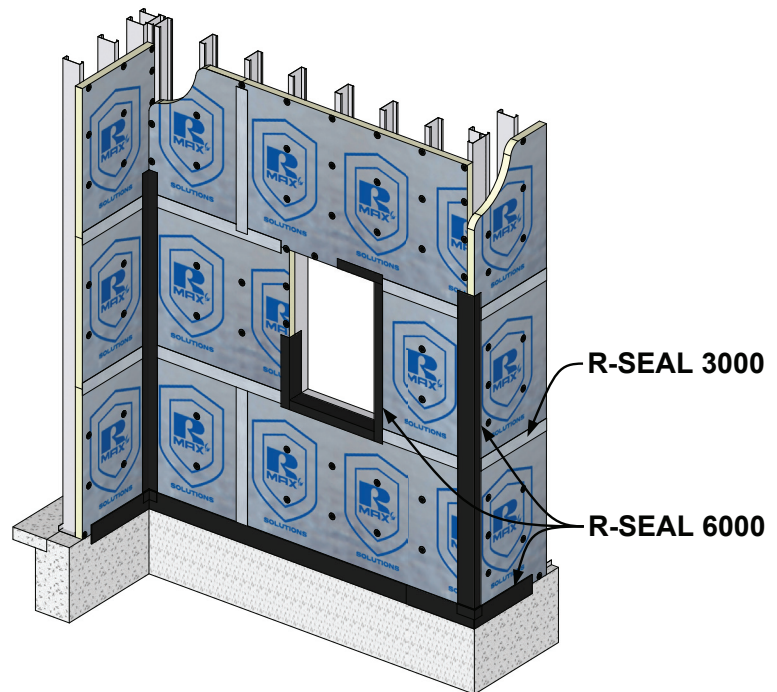

Figure 1
- K. For changes in direction (corners, surface offsets, etc.) the boards should tightly fit in an overlap. **Reference Figure 1 and 8.**